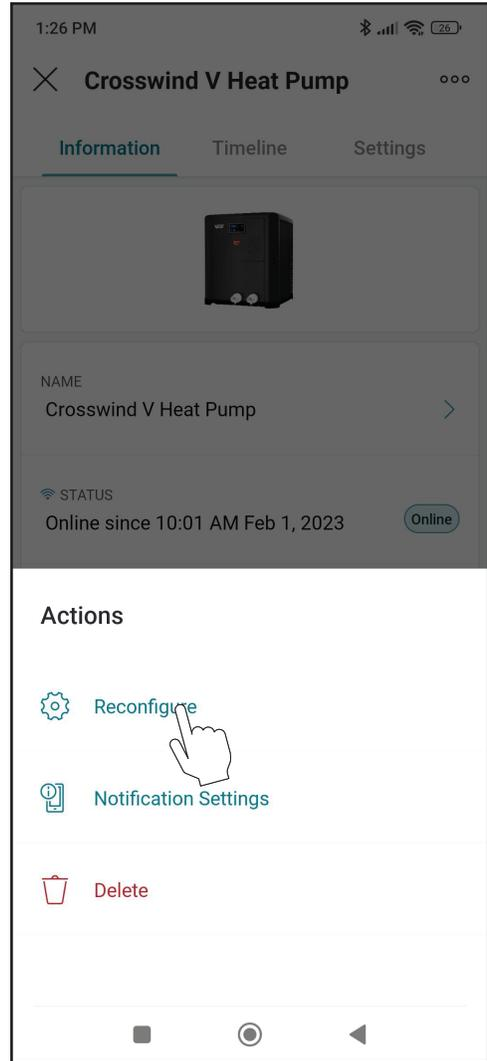

Figure 95. Select Reconfigure
3. Click in the 3-dots icon again. The action menu is displayed. In “Actions” menu, select the option “Reconfigure” as shown in Figure 95.